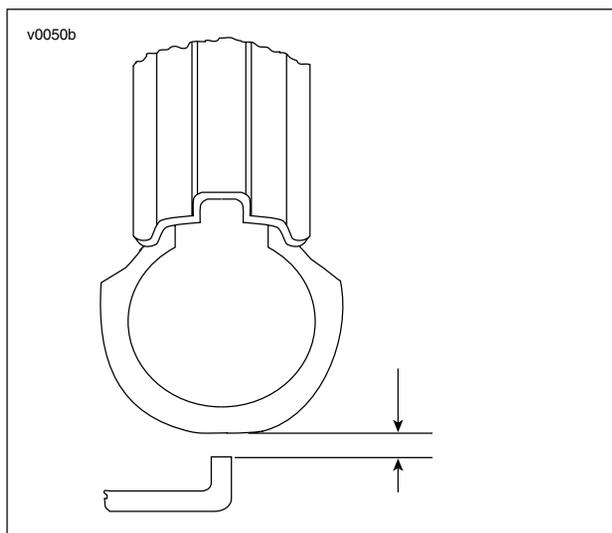

Figure 2-87. Radial Tire Runout
- See Figure 2-87. With a tire centered and mounted on the rim, check runout by turning wheel on axle, measuring amount of radial displacement from a fixed point near the tire.